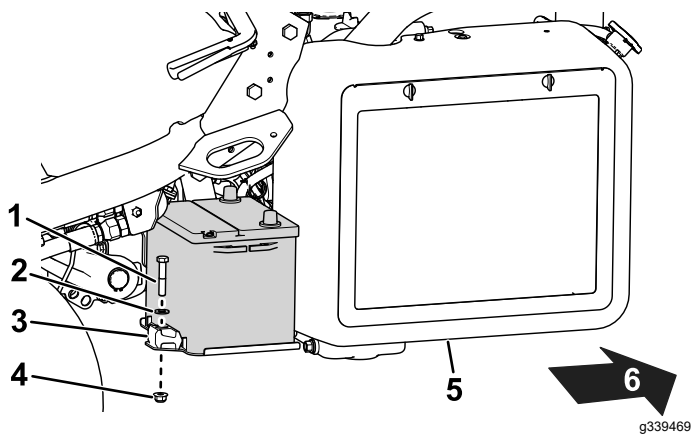

Figure 43
2. Remove the fasteners that secure the battery to the tray (Figure 43) and lift out the battery.
5. Place the battery on the battery tray and secure it with the previously removed rods and fasteners (Figure 43).